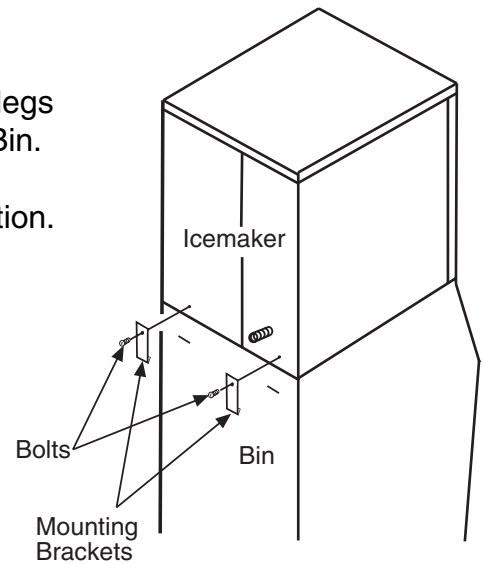

Fig. 2
- 4) Secure the icemaker to the Storage Bin, by using the two mounting bracket and the four bolts provided. See Fig. 2